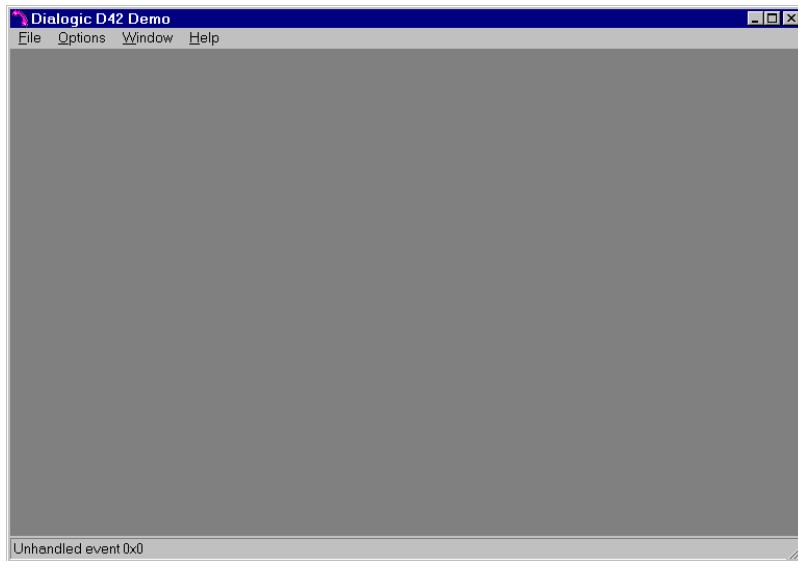

Figure 19. Dialogic D42 Demo Window
3. The *Dialogic D/42 Demo* window opens, as seen in Figure 19.